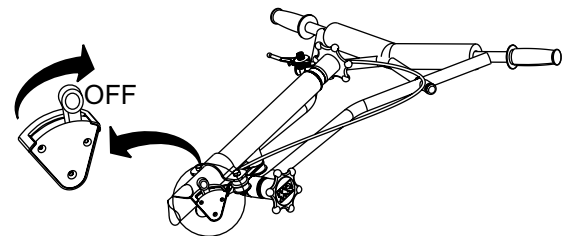

Figure 26. Testing Safety Stop Switch
1. With the engine running at idle, place the safety stop switch lever in the **"OFF"** position (Figure 26). Verify that the engine shuts off. If the engine continues to run, replace centrifugal safety stop switch.